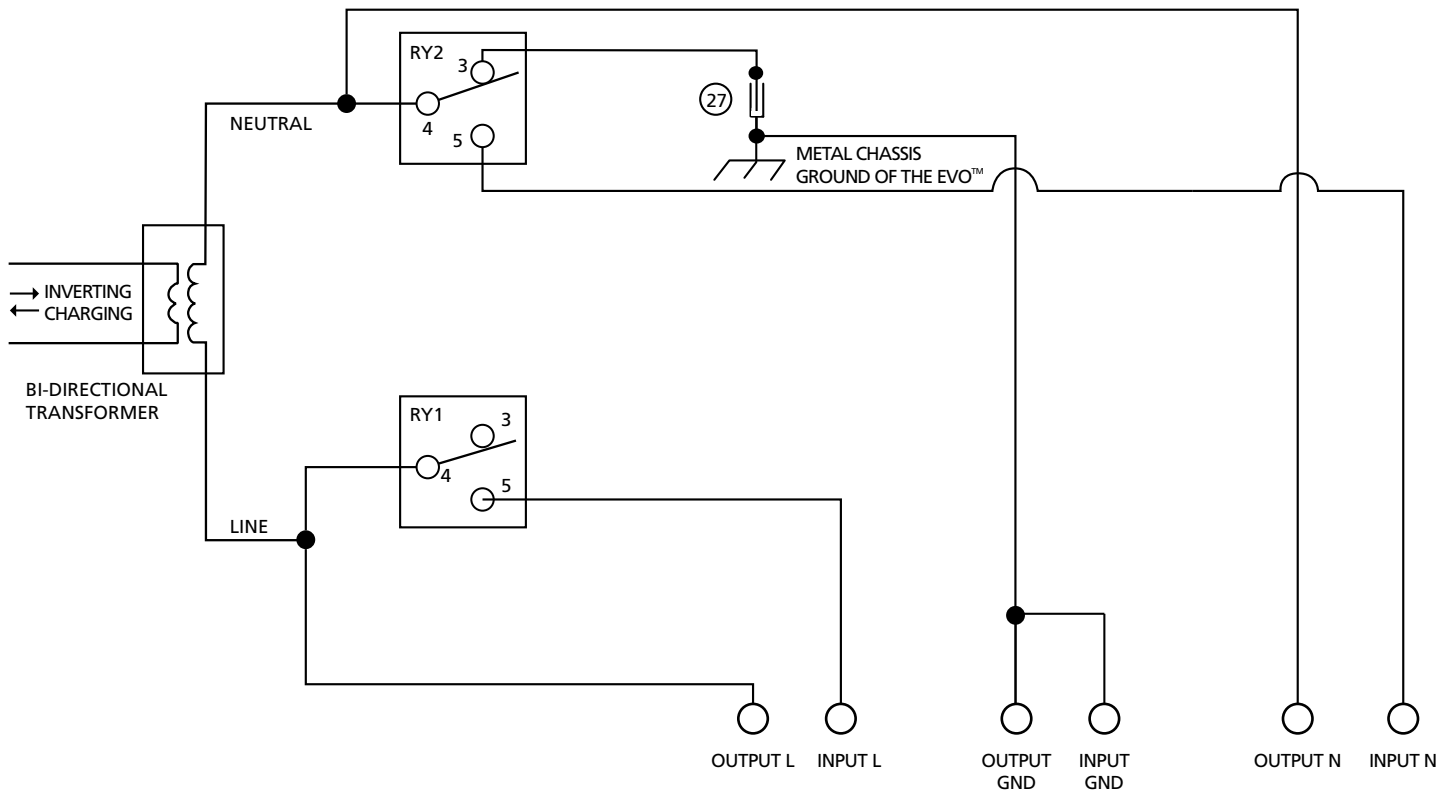

Fig 4.1 Operation of Transfer Relay and Switching of Bond Between Output Neutral and Metal Chassis Ground
Transfer Relay Section is used to either feed AC input power from external AC input source (e.g. Grid/Generator) to the Battery Charger Section and at the same time, pass through the AC power from the external AC input power source to the load (As long as the external AC input power is available and is within the programmed limits of voltage and frequency) or to transfer the load to the Inverter Section (In case of loss of the external AC input power source or if this source is not within the programmed limits of voltage and frequency). Typical transfer time is 16 milliseconds from the AC input source to Inverter and <1ms from Inverter to the AC input source. Heavy duty 40A, Transfer Relay [RY1, Fig 4.1] is used for reliable transfer of power.
As required by NEC and UL Standard 458, automatic switching of bonding between the Output Neutral and Chassis Ground has been provided in EVO through “Output Neutral to Chassis Ground Bond Switching Relay” [RY.2 in Fig 4.1]. Switching of bonding is carried out as follows:
- (a) When operating as an inverter, the current carrying conductor of the Inverter Section that is connected to the Output Neutral terminal of EVO is bonded to the metal chassis of EVO by the “Output Neutral to Chassis Ground Bond Switching Relay” [RY.2 in Fig 4.1]. As the metal chassis of EVO is in turn bonded to the Earth Ground (in shore installations) or to the RV Ground (chassis of the RV) or to the Boat Ground (DC Negative Grounding Bus Bar and the Main AC Grounding Bus Bar are tied together in a boat and this is called the “Boat Ground”), this current carrying conductor of the Inverter Section (connected to the output terminal) will become the Grounded Conductor (GC) or the Neutral of the Inverter Section.
- (b) When in Charging Mode, the Neutral conductor of the AC input source will be connected to the Output Neutral terminal of EVO. At the same time, the “Output Neutral to Chassis Ground Bond Switching Relay” [RY.2 in Fig 4.1] will unbond (disconnect) the Output Neutral connector of EVO from the metal chassis of EVO. This will ensure that the Grounded Conductor (GC) i.e. the Neutral of the AC input power source is bonded to the Earth Ground at one single point at the location of the AC Power Distribution System of the Marina/RV Park/Shore Power.
- (c) **Disabling Neutral to Ground Bond:** In some applications, the Output Neutral of EVO may be required to remain isolated from the chassis/Ground at all times. For this, automatic Output Neutral to Ground bond can be disabled by disconnecting the Male/Female Quick Disconnect located in the AC wiring compartment. [Please see (i) 27, Fig 3.9.2(a) and (ii) 27 in Figs 4.1]
Refer to Schematic at Fig 4.1.
- o 40A* rated SPDT Relay RY1 (Fig 4.1) is used to switch the Hot Output Connector (OUTPUT L) to either the Inverter Section or to Grid / Generator. (*Refer to Note 2 under Legend for Fig 4.1)
- o When Grid / Generator input Power is available, Relay RY1 (Fig 4.1) will be energized and contact 4 switches over to contact 5. The Bidirectional Transformer works as a battery Charger. The Hot AC input from Grid / Generator (INPUT L) is fed to the Hot input of the Bi-directional Transformer for battery charging and at the same time, it is passed through to the Hot Out (OUTPUT L) for powering the AC loads.
- o When Grid / Generator power fails, Relay RY1 (Fig 4.1) will be de-energized and contact 4 switches back to contact 3. Output from the Inverter Section is fed to the Bi-directional Transformer and onwards to the Hot Out (OUTPUT L) for powering the AC loads.
- o 40A* rated SPDT Relay RY2 (Fig 4.1) is used to switch the bonding of the Output Neutral Connector (OUTPUT N) to the chassis of the unit. (*Refer to Note 2 under Legend for Fig 4.1)
- o When Grid / Generator input power is available, Relay RY2 (Fig 4.1) will be energized and contact 4 switches over to contact 5. Neutral input from Grid (GRID N) is fed to the Neutral input of the Bi-directional Transformer for battery charging and at the same time, it is passed through to the Output Neutral (OUTPUT N) for powering the AC loads. Please note that in this condition, the Output Neutral (OUTPUT N) is isolated from the chassis of the unit
- o When Grid / Generator input power fails, Relay RY2 (Fig 4.1) will be de-energized and contact 4 switches back to contact 3. Neutral output from the Inverter Section is fed the Neutral of the Bi-directional Transformer and onwards to the output Neutral (OUTPUT N) for powering the AC loads. At the same time, the output Neutral (OUTPUT N) gets bonded to the metal chassis of the unit through the mated contacts of the Insulated Male / Female Quick Disconnect (27, Fig 4.1) located in the AC Wiring Compartment [27, Fig 3.9.2(a)] in EVO-1212F-HW / 1224F-HW. In EVO-1212F / 1224F, the Insulated Male / Female Quick Disconnect is accessible after opening the top cover of the unit.
LEGEND for Fig 4.1